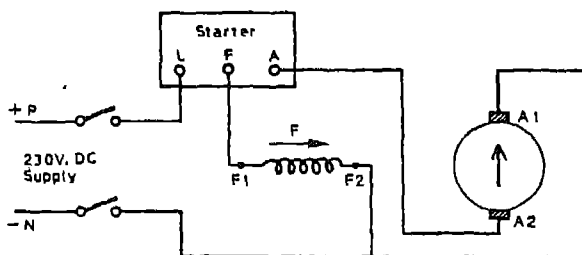

Fig 18.3 D.C. Shunt motor rotation reversal
- (v) Reconnect the motor as shown in Fig 18.3.